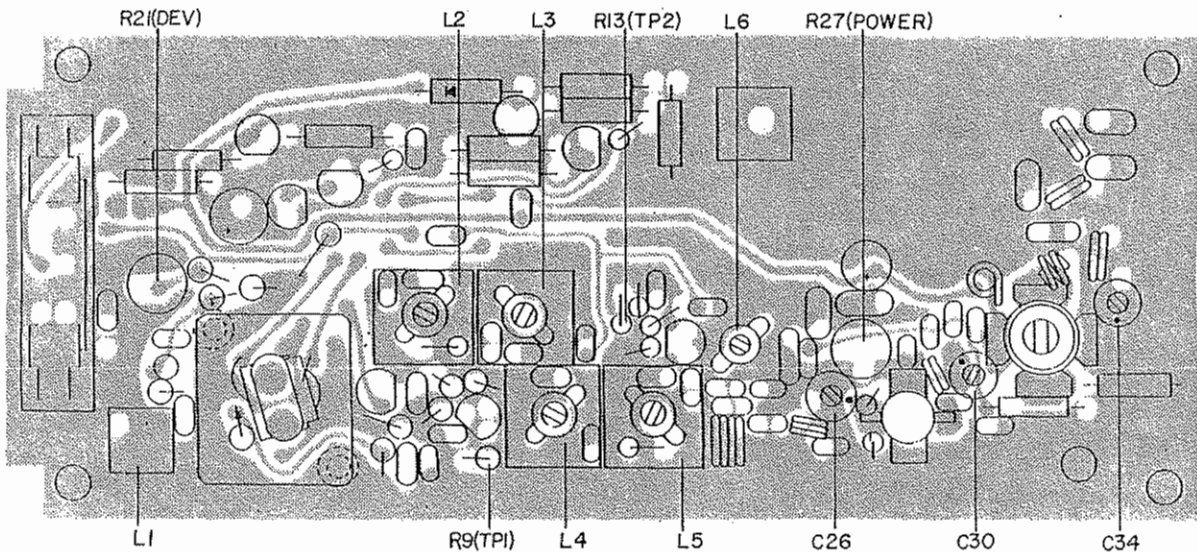

Figure 5-6
2. Set the unit for "Base" mode with both tones (A and B) off. Refer to Figure 5-6 for the location of test points and tuning adjustments.
- Adjust the transmitter power (R27) on the exciter (figure 5-6) for 20W.
- Key the transmitter and set the transmitter deviation, R21 (figure 5-6), for \pm 5 kHz deviation.